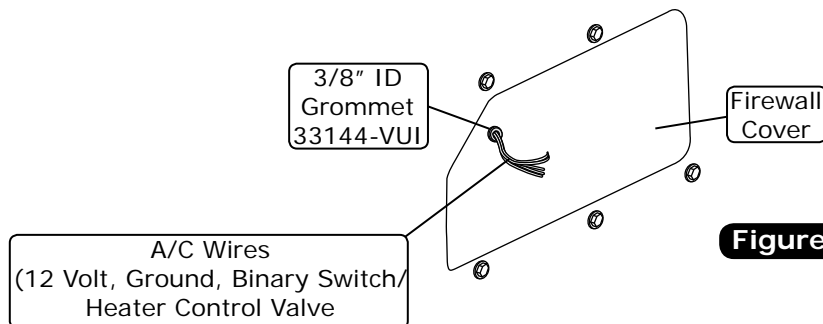

Figure 19
2. Install a 3/8" ID grommet into the firewall cover (See Figure 19, below).
3. Route the A/C wires (12 volt/ground/binary switch/heater control valve) through the 3/8" grommet as shown in Figure 19, below.